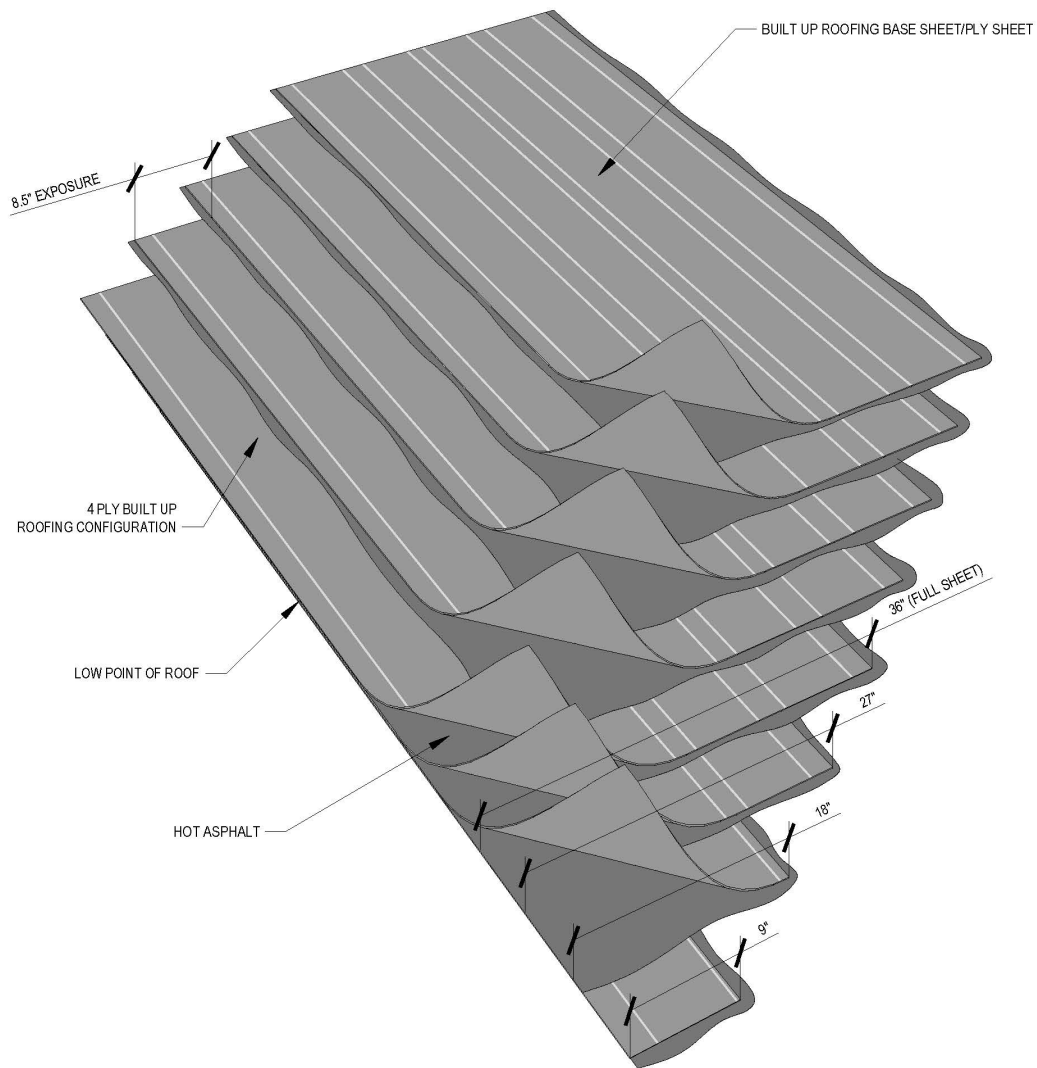

Figure 2.2c Four (4) Ply Built Up Vapor Retarder Configuration
- **FOUR (4) PLY BUILT-UP VAPOR RETARDER APPLICATION** (Refer to Figure 2.2c):